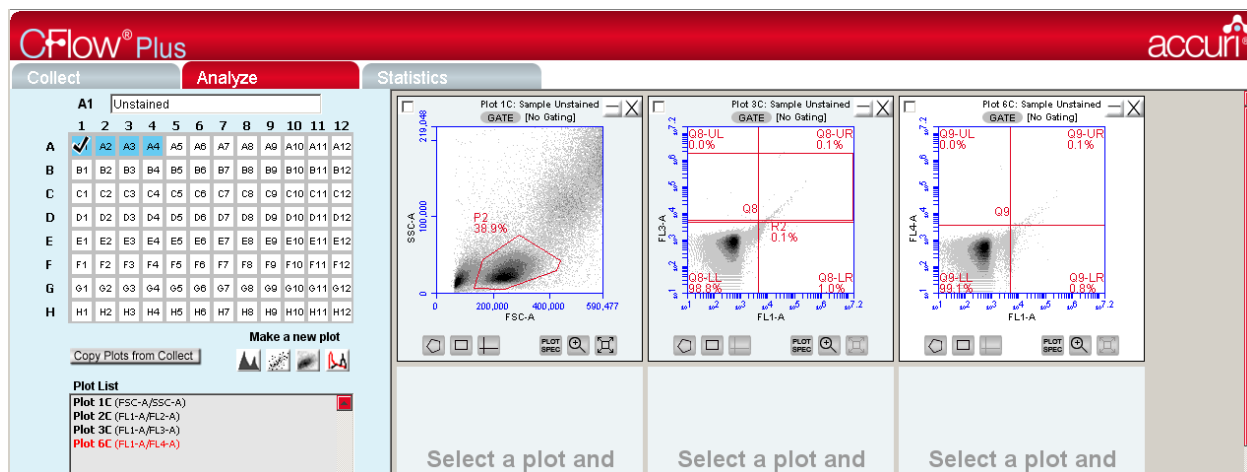

Figure 4-4 Analyze tab with copied plots in Plot List and selected plot corral.
Note that the gate around the lymphocyte population is now named “P2” (Figure 4-4). “P2” is a copy of “P1” from the Collect tab. “P2” can now be adjusted in the Analyze tab without changing the position of “P1” in Collect tab.
6. One by one, select the next 2 empty plot corrals in the top row and choose Plot 3C (FL1-A/FL3-A) and Plot 6C (FL1-A/FL4-A), respectively, from the Plot List (Figure 4-4).
7. Display the data for Sample well A1 in each of these plots by clicking on the plot, then clicking on well A1 (Figure 4-4).